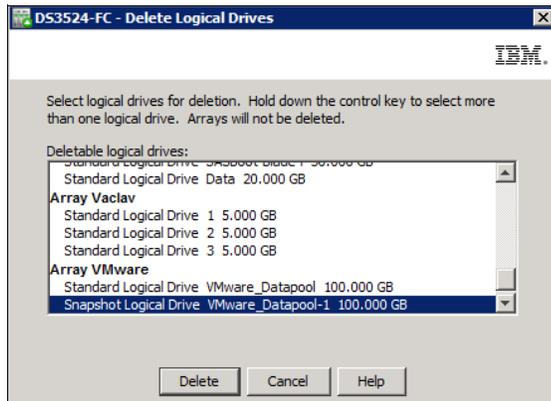

Figure 2-39 Delete FlashCopy logical drive dialog box
3. The Delete FlashCopy logical drive window (Figure 2-39) opens. Highlight the FlashCopy logical drives that you want to delete and click **OK**.